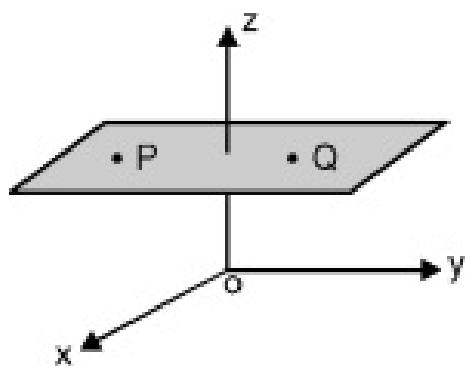

Fig. 6.1.1 : $Z = \text{constant}$ plane
- Consider a plane perpendicular to the z-axis as show in Fig. 6.1.1. As, z-axis is vertical, a plane normal to z is horizontal, also xy plane is horizontal. Therefore xy plane and plane under consideration are parallel.